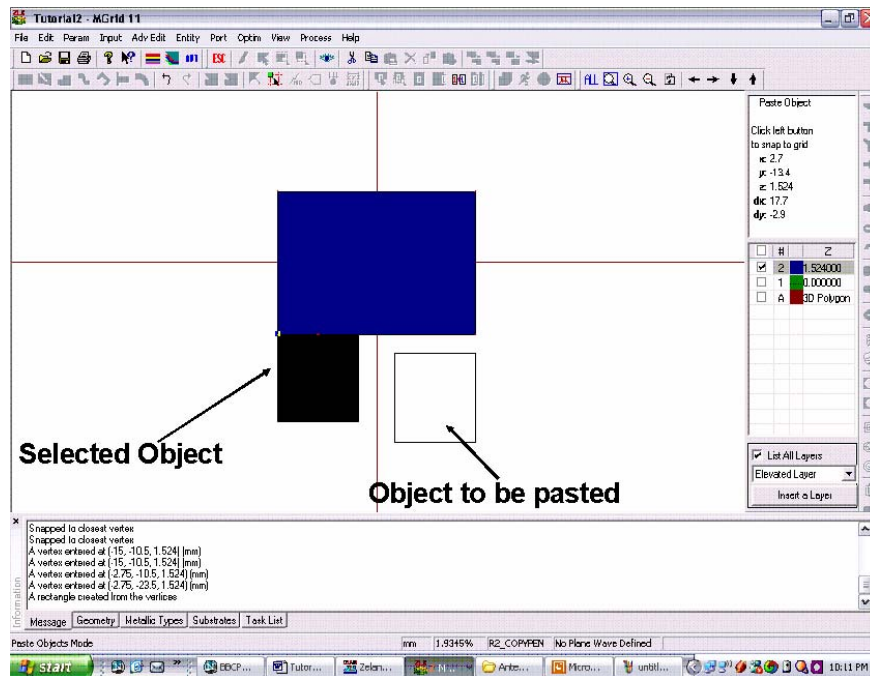

Figure 12.
- 14) Press, Ctrl+C to copy the object and Ctrl+V to paste it. Your screen should look like Figure 12. The outline of the object to be pasted is drawn and as you move the mouse, it will move as well. You can move the cursor to the paste point coordinates and click on the left button. You can also click anywhere on the screen. The “Copy Object Offset to Original” menu pops up. In this menu, you can enter the coordinates of the paste location.